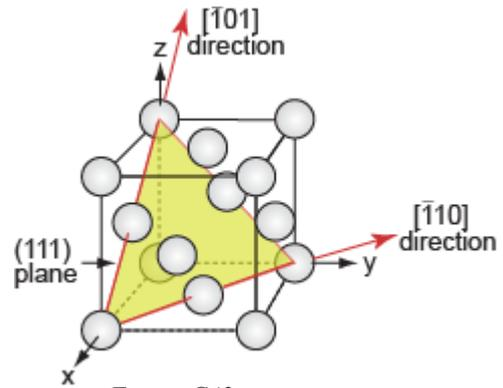

Figure C42.
- E26.** The planes and directions are shown on Figure C42.